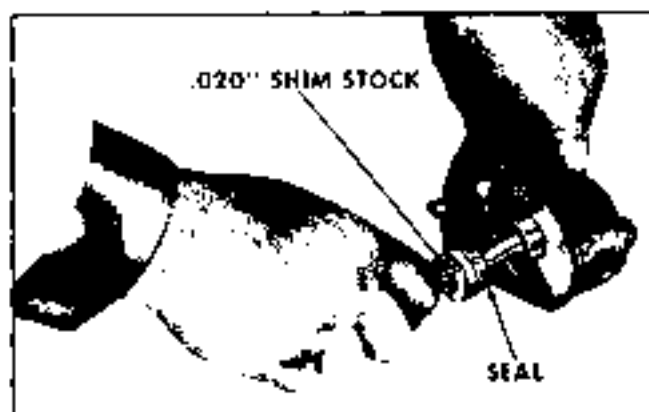

Fig. 4-23 Installing Piston Seal
4. Install new seals, using a piece of .020" shim stock (Fig. 4-23).